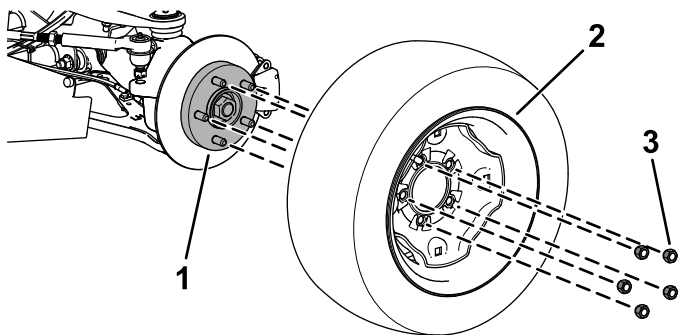

Figure 2
2. Remove the lug nuts that secure the wheel to the hub (Figure 2).
1. Install the wheel onto the hub using the previously removed lug nuts (Figure 2).